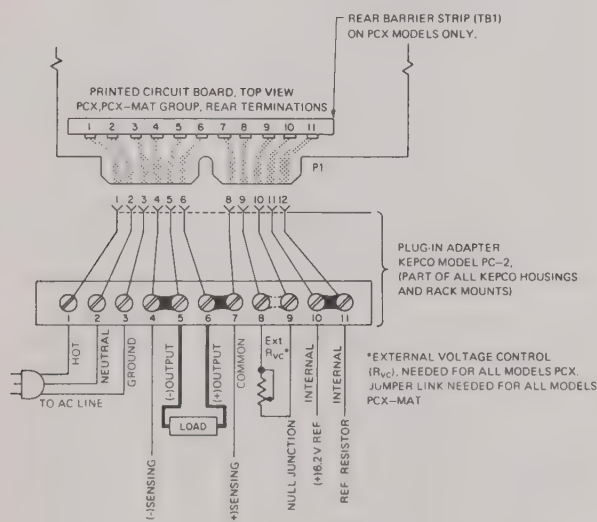

FIG. 3-1 REAR CONNECTIONS FOR
3-1 STANDARD OPERATION, LOCAL CONTROL (Refer to FIG. 3-1)
- 3-3 The load should be connected as shown (on PCX–MAT models, the load may be connected to the front terminals). Error sensing, as described below (Refer to paragraph 3-5) is recommended to insure specified performance directly at the load. Standard jumper link connections for local control are shown in FIG. 3-1 below. All load connections and jumper links must be tight and secure for proper operation. If the indicated Plug-In Adaptor (PC-2) is not used, the jumper links must be provided on the mating connector to P1. In the case of PCX Models which are equipped with their own miniature barrier strip (TB1), the jumper links on TB1 must be removed, if an adaptor (PC2–part of all cases and rack mounts) is used.
- 3-4 The connecting diagrams shown in the following paragraphs show ONE barrier strip only. This barrier strip represents the rear terminations of the PCX as well as that of the PCX–MAT group. The relationship between barrier strip terminals and pin numbers on P1 may be found by referring to FIG. 3-1. AC line connections (as shown in FIG. 3-1) have been omitted in order to simplify the presentation.